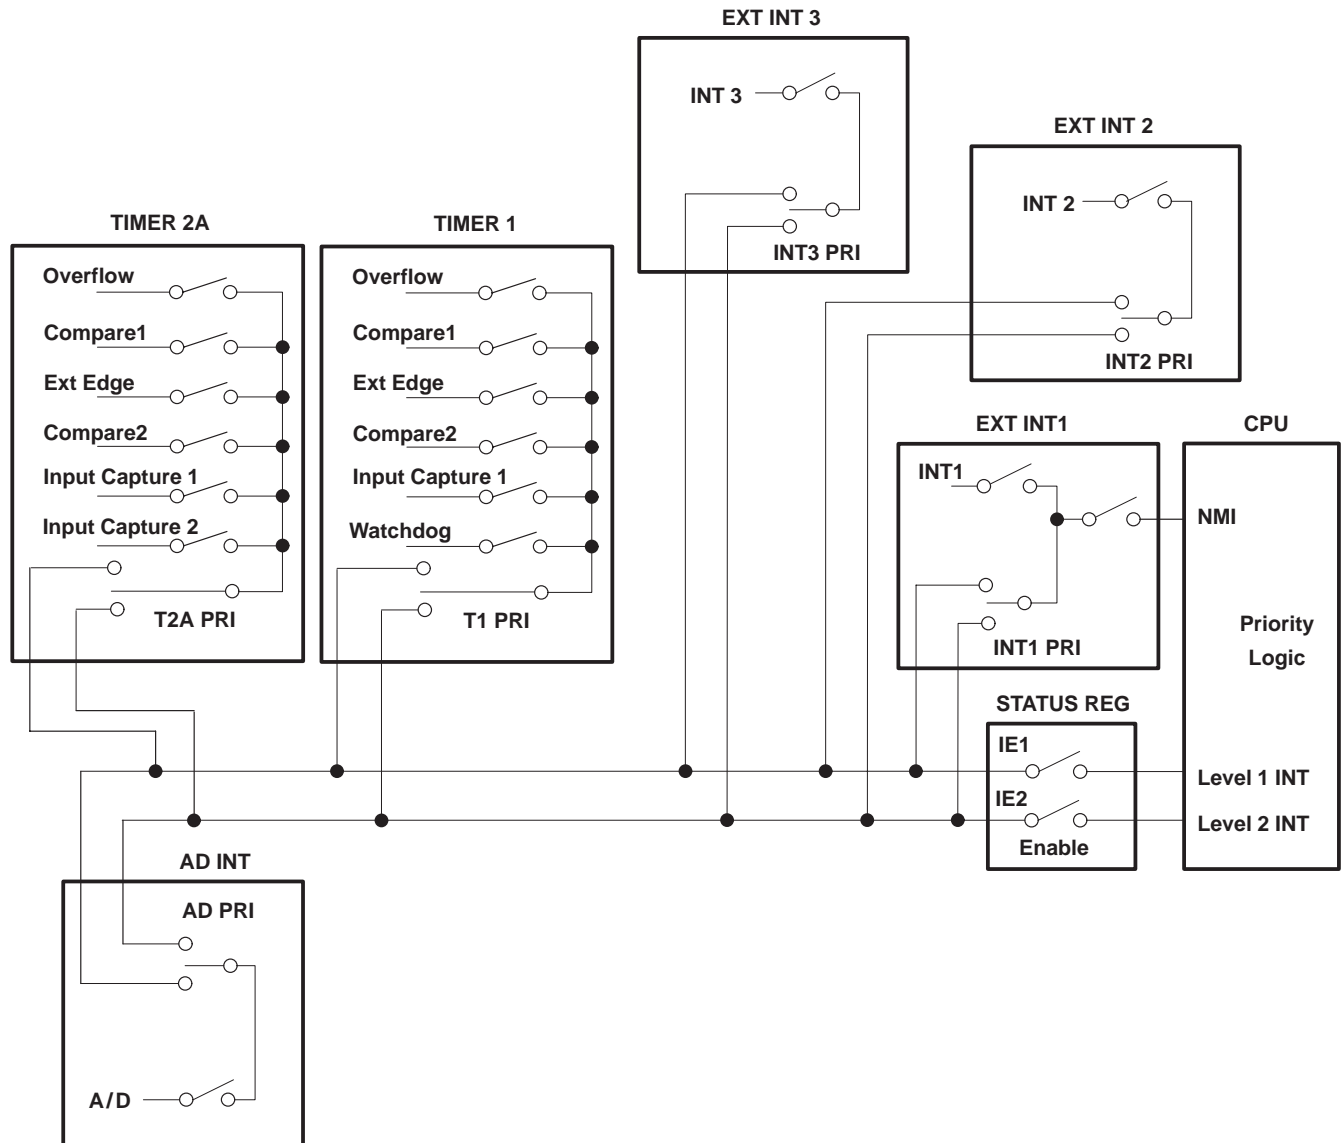

Figure 4. Interrupt Control
The TMS370 family software programmable interrupt structure permits flexible on-chip and external-interrupt configurations to meet real-time interrupt-driven application requirements. The hardware-interrupt structure incorporates two priority levels as shown in Figure 4. Interrupt level 1 has a higher priority than interrupt level 2. The two priority levels can be masked independently by the global-interrupt mask bits (IE1 and IE2) of the status register.
The TMS370Cx7x has six hardware-system interrupts (plus $\overline{\text{RESET}}$) as shown in Table 8. Each system interrupt has a dedicated vector located in program memory through which control is passed to the interrupt service routines. All of the interrupt sources are maskable individually by local interrupt-enable control bits in the associated peripheral file (PF). Each interrupt source FLAG bit is readable individually for software polling or for determining which interrupt source generated the associated system interrupt. The interrupt-control block diagram is illustrated in Figure 4.